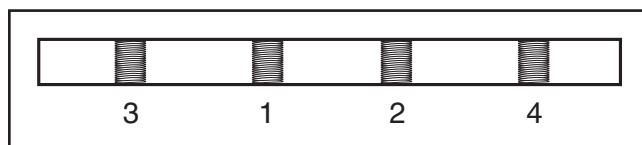

Figure 59. Gib bolt tightening sequence.
6. Slightly tighten gib set screws, starting at middle and working your way to ends by alternating left and right, as illustrated in **Figure 59**. This helps seat each blade evenly.